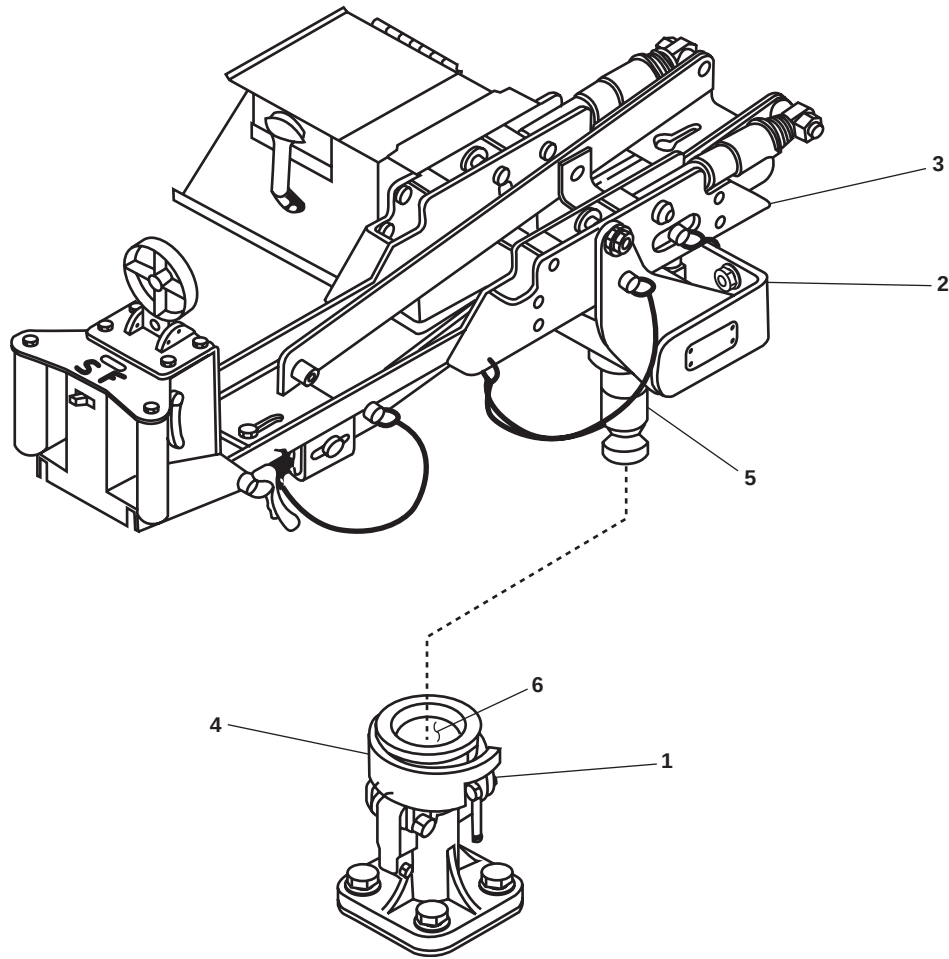
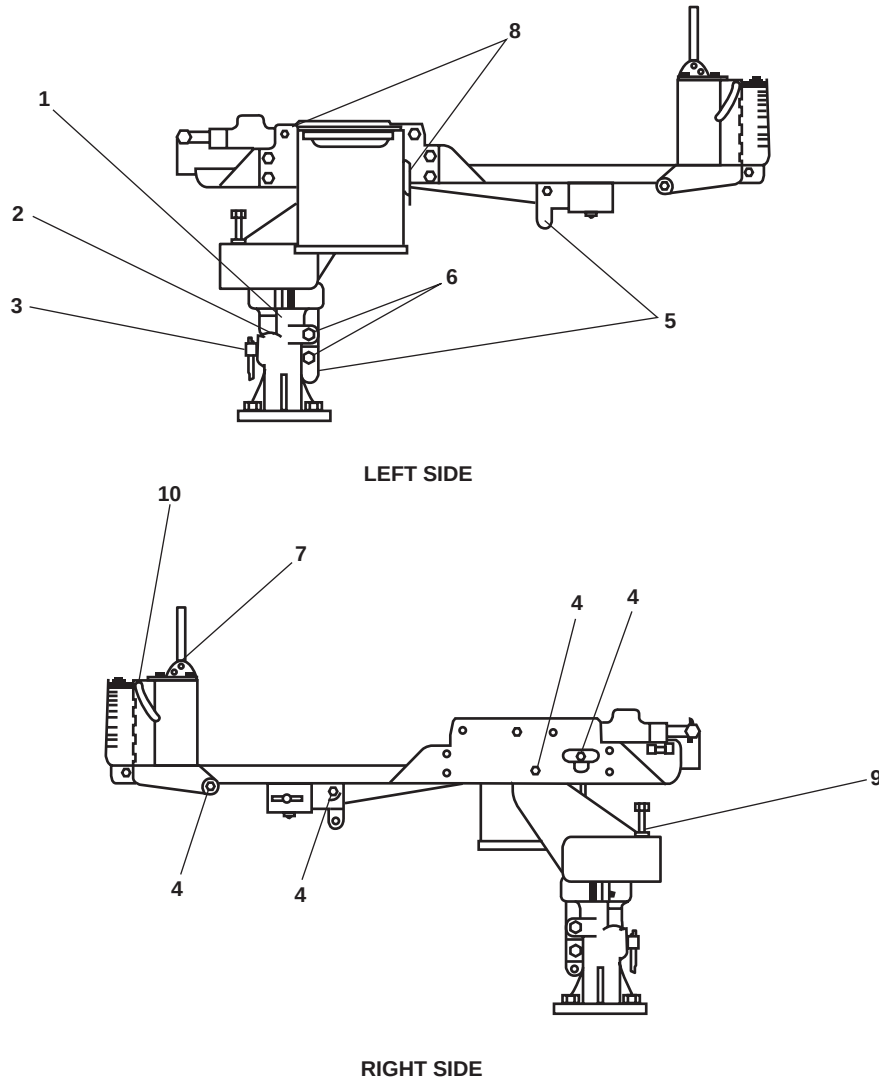

Figure 2. Machine Gun Mount
Figure 3. Machine Gun Mount Lubrication Points
3. Loosen the pintle clamp (figure 2, item 1) and remove the carriage (figure 2, item 2) and cradle (figure 2, item 3) from the stand (figure 2, item 4).
4. Apply a heavy coat of aircraft grease to the carriage pintle (figure 2, item 5; figure 3, item 1).
5. Apply a heavy coat of aircraft grease to the stand socket (figure 2, item 6; figure 3, item 2)
6. Install the carriage (figure 2, item 2) and the cradle (figure 2, item 3) onto the stand (figure 2, item 4).
7. Apply a light coat of aircraft grease to the threads of the pintle clamp (figure 2, item 1; figure 3, item 3). Tighten the pintle clamp.
8. Apply five drops of aircraft grease to the gun mount pins and bearings (figure 3, item 4) and the locking bearings (figure 3, item 5).
9. Apply cleaner, lubricant and preservative to the cradle lock bearing (figure 3, item 6).
10. Apply a light coat of cleaner, lubricant and preservative to the rear sight hinge area (figure 3, item 7).
11. Apply a light coat of cleaner, lubricant and preservative to to the ammunition box securing lock (2 points) and hinge (figure 3, item 8).
12. Apply a light coat of cleaner, lubricant and preservative to the depression stop bolt (figure 3, item 9).
13. Apply a light coat of cleaner, lubricant and preservative to the safety and return spring (figure 3, item 10).